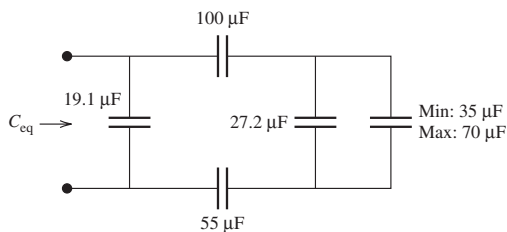

FIGURE P4.30 Capacitor network.
4.30 (A) Find the minimum and maximum values for C_{eq} as shown in Figure P4.30.